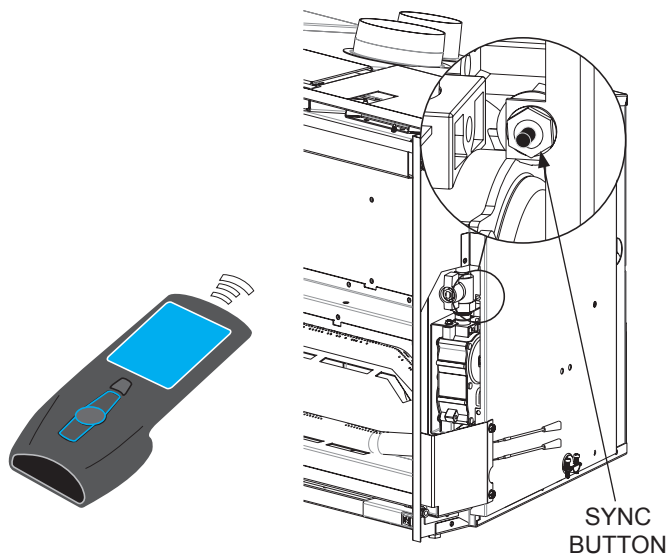

Figure 28
2. Push the sync button to the right of the insert. See Figure 28.